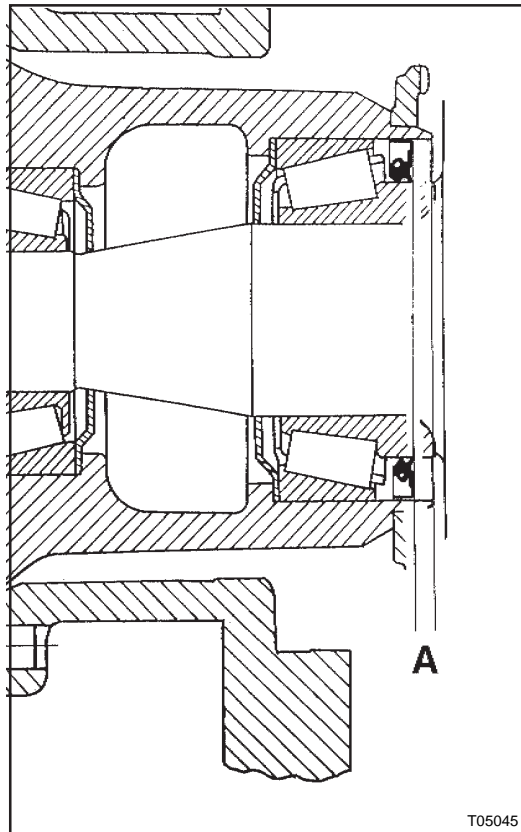

Figure 2: Double lip seal set back. Dimension "A" equals 3/16 inch
6. Apply grease to new inner bearing seal. Position seal squarely on the hub and drive into position using a suitable mandrel (VH No.10647688). Remove excess grease from bearing bore. Check with the tail of a sliding caliper that the case of the seal is square and is actually set back 3/16 inch from the rear hub flange (see Figure 2).